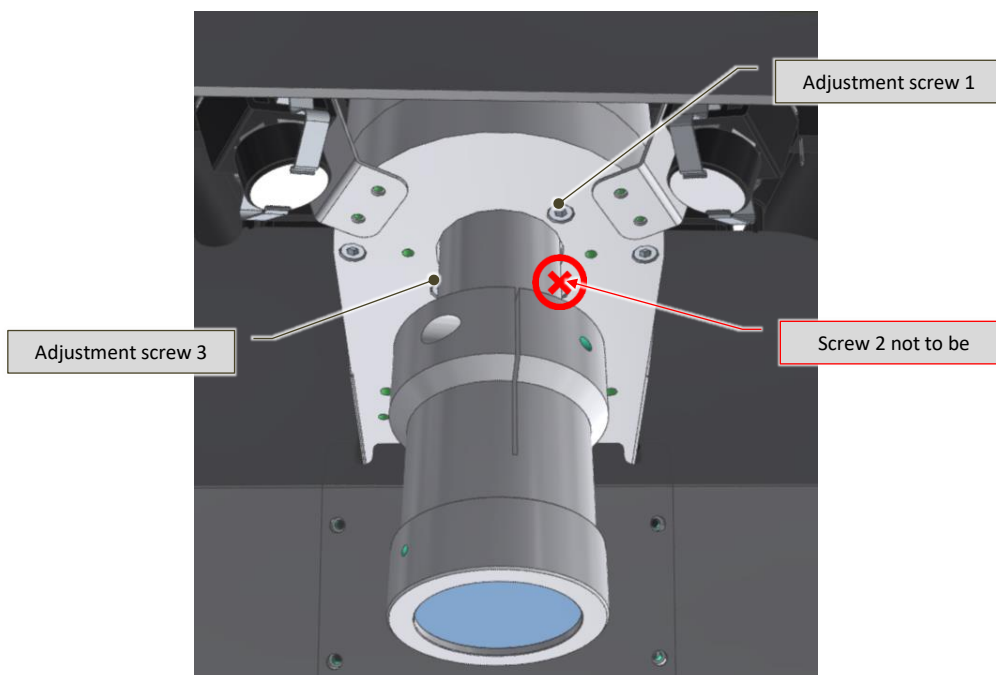

Fig. 9-6 – Adjusting the alignment of the aiming reticle
- Look inside the microscope and, using a 3 mm hex wrench, slightly rotate the screws 1 and / or 3 present near the sleeve, until the reticle overlaps with the point where the shot hit the blade (Fig. 9-6).